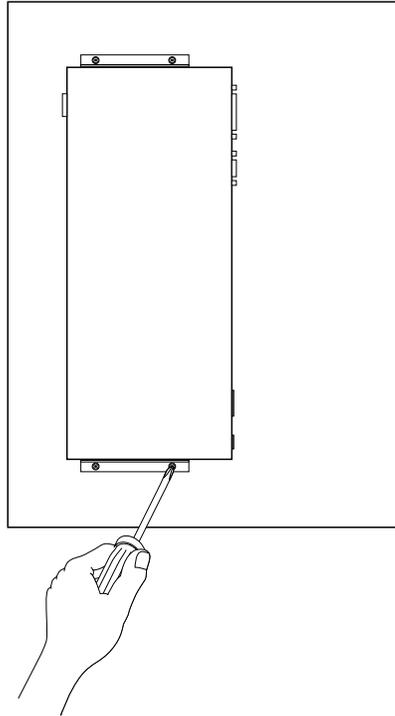

Figure 2-13. Securing Model 28xx to the Wall
- 3. Holding the concentrator against the wood, align the bracket holes with the pilot holes in the plywood (see Figure 2-13). Insert and tighten the sheet metal screws.**